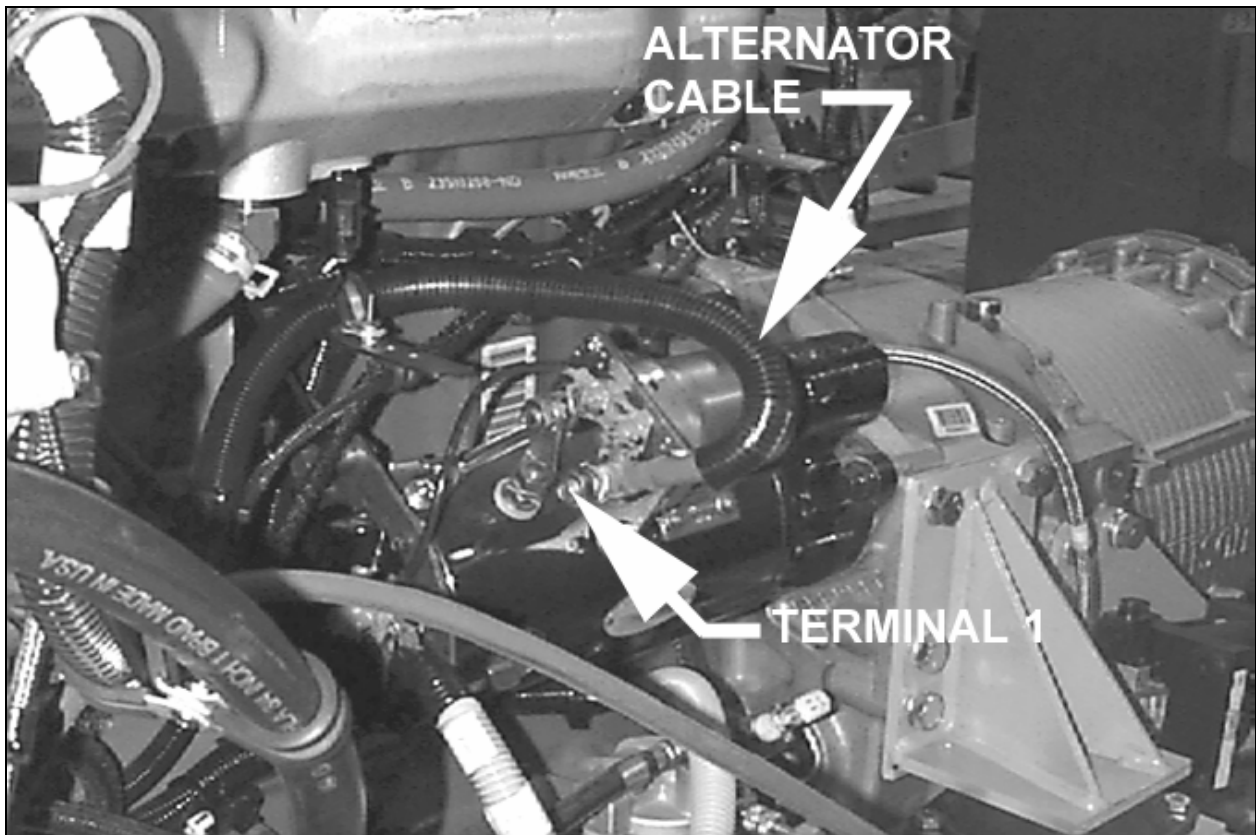

FIGURE 1 : STARTER CABLES
1. Inspect alternator and battery cables connected to starter terminal # 1 (refer to figure 1).
4. Install alternator cable. Ensure alternator cable is positioned horizontally (3 o'clock). Refer to fig. 1.